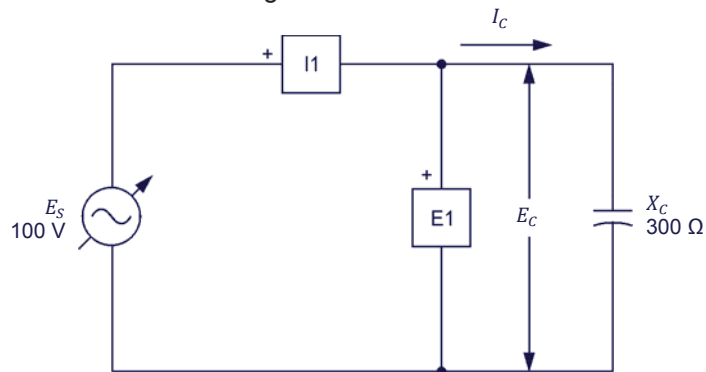

Figure 3-7. AC circuit containing a capacitor and set up for power measurements.
34. Set up the circuit shown in Figure 3-7.